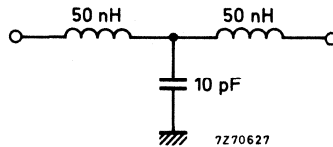

Fig. 11.
- A low-pass filter (Fig. 11) with a cut-off frequency of about 300 MHz has to be inserted between the v. h. f. aerial terminal of the tuner and the aerial terminal of the receiver. Television receivers with a common v. h. f. /u. h. f. connector in combination with a low-pass/high-pass splitter ¹⁾ may not need this additional filter.